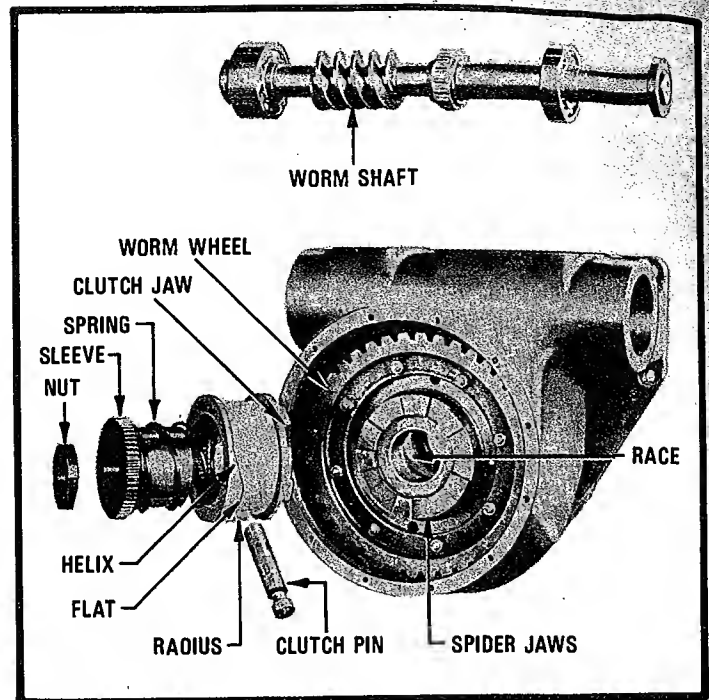

FIGURE 107
A full revolution clutch is used on all standard mechanical shears, except the High Speed shears. The clutch, Figure 107, has multiple jaws on its inside face. The clutch slides on the sleeve and is splined to it. The sleeve is keyed and driven on tapered end of driveshaft and is retained by a nut. The clutch is constantly pushed toward the spider by a spring between it and the sleeve. In the idle position the clutch is held away from the spider by the clutch pin. When the clutch pin is withdrawn, by depressing the footswitch or foot treadle, the spring forces the clutch jaws into mesh with revolving jaws on the spider. This causes the driveshaft to turn. As long as the footswitch (in "RUN" or "CONTINUOUS" mode of operation) or the foot treadle is held depressed, the driveshaft will continue to turn and the shear ram will make continuous strokes. When the footswitch or treadle is released the clutch pin moves in, and at the proper time
6. The helix on the clutch and the end of the clutch pin may be rounded, causing the clutch pin to jump out. See Figure 107. If this condition exists, replace the clutch.